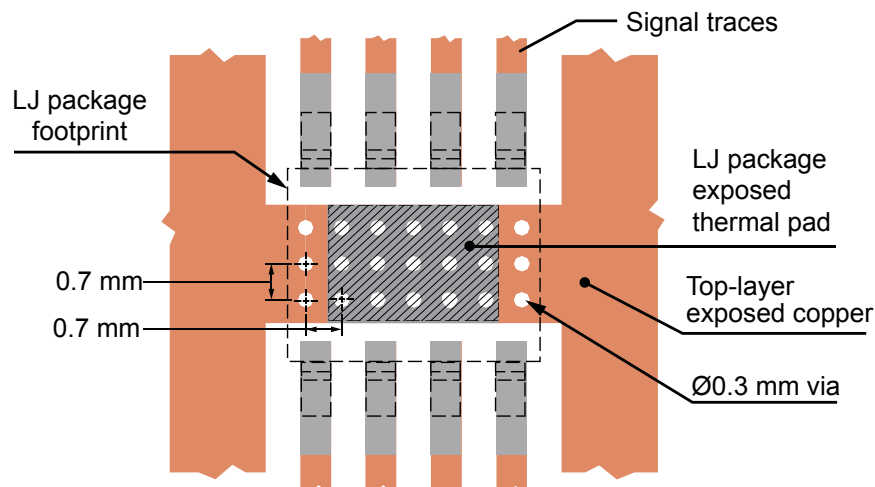

Figure 8. Suggested PCB layout for thermal optimization (maximum available bottom-layer copper recommended)
- The greater the quantity of thermal vias, the better the dissipation. If the expense of vias is a concern, studies have shown that concentrating the vias directly under the device in a tight pattern, as shown in figure 8, has the greatest effect.